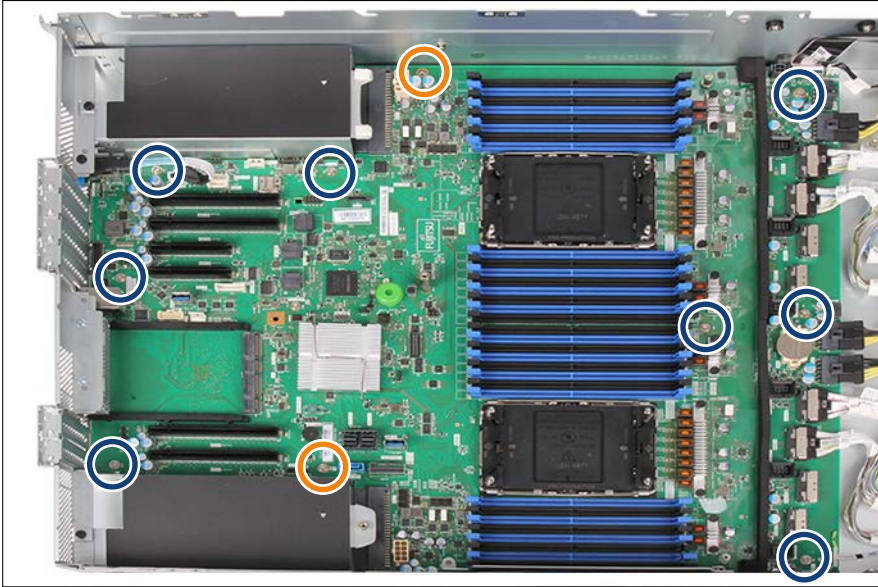

Figure 345: Position of the screws
- ▶ Adjust the system board. If necessary adjust the position of the system board with a gentle twisting motion (orange circles in Figure 345 show the centering bolts).
- ▶ Fasten the system board with ten screws, see Figure 345.
- ▶ Fasten the system board with the two specific screws, see Figure 345.